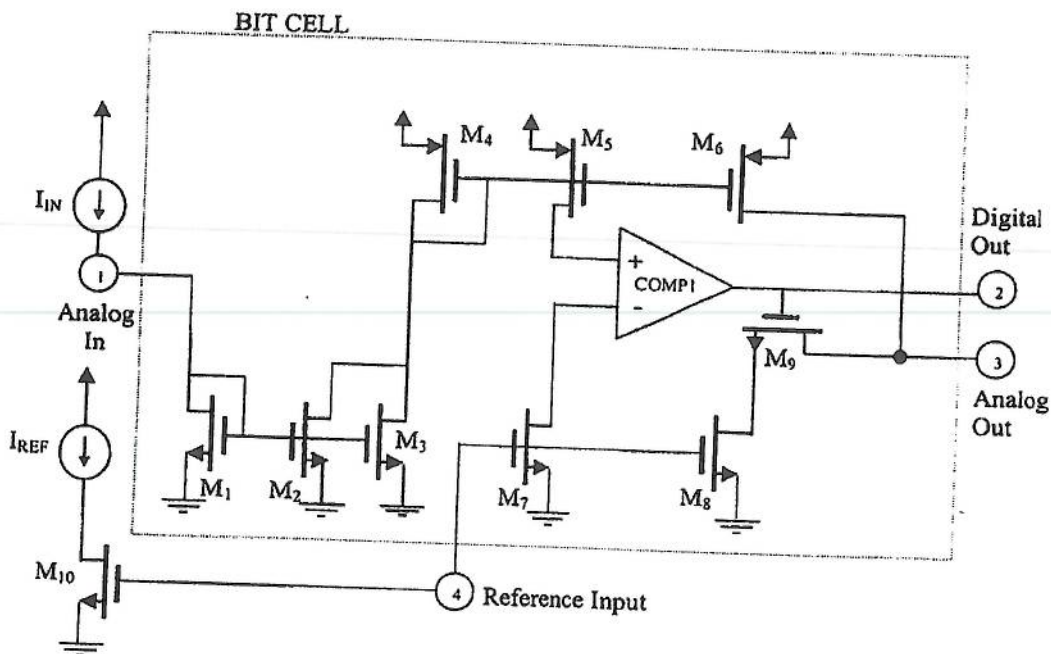

Figure 5.
- (b) Figure 5 shows one bit of an algorithmic data converter. *connected 2.45u*